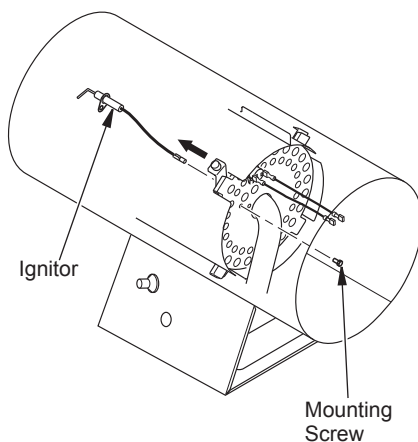

Figure 13 - Removing Ignitor Mounting Screw and Ignitor
3. Remove ignitor mounting screw from rear head using nut-driver or standard screwdriver (see Figure 13).